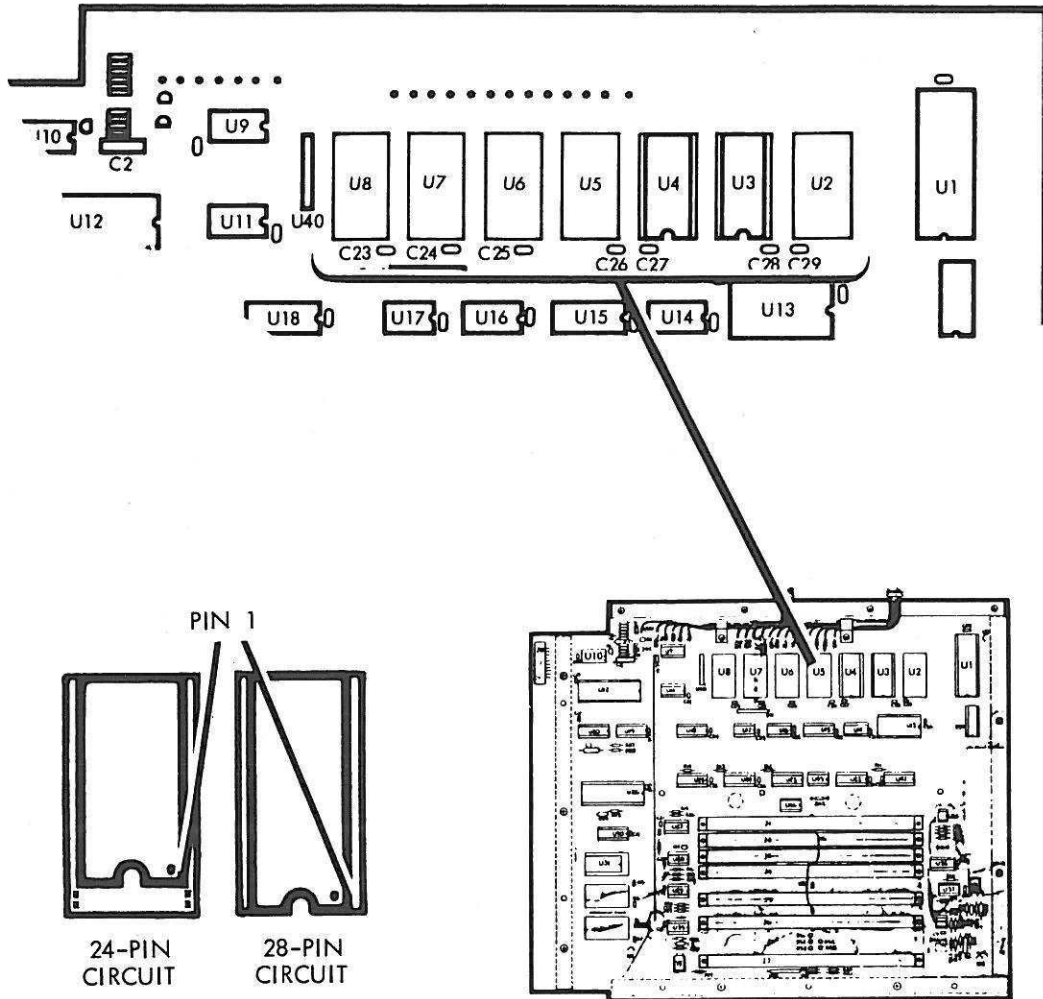

Figure 2-1. Motherboard RAM/EPROM Replacement
STEP 7. Motherboard RAM Replacement. Remove the 24 pin integrated circuit from the location marked U3 on the Motherboard circuit assembly and insert the same part into position marked U5 on the same assembly (see Figure 2-1). Remove the 24 pin integrated circuit from the location marked U4 on the Motherboard circuit assembly and insert the same part into position marked U6 on the same assembly.
STEP 8. EPROM Installation. Remove the 2732 EPROM, provided as part of the retrofit kit, from the conductive foam in which it was shipped and insert it into position marked U3 on the motherboard circuit assembly (see Figure 2-1).